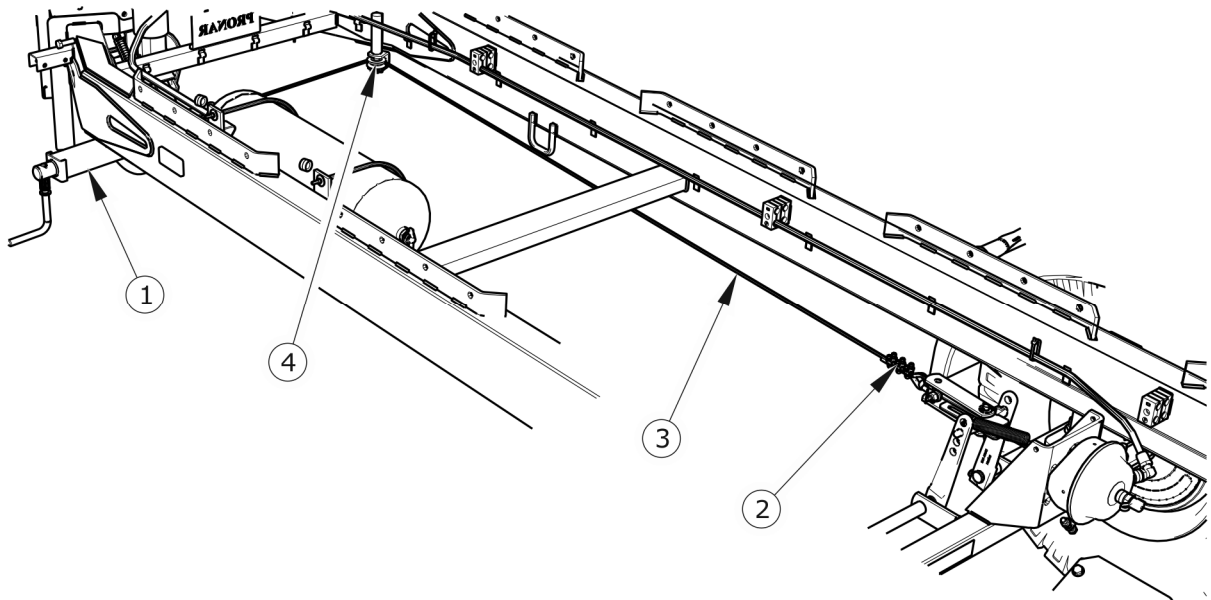

FIGURE 5.5 Parking brake cable tension adjustment
- ➔ Unscrew (counterclockwise) the brake mechanism screw (1) to its maximum - Figure 5.5.
- ➔ Loosen the nuts (2) of the hand brake cable clamps.